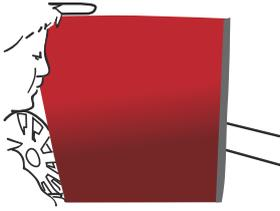

Figure 11
- › Remove the whole liner by pulling it off. (FIG. 11)